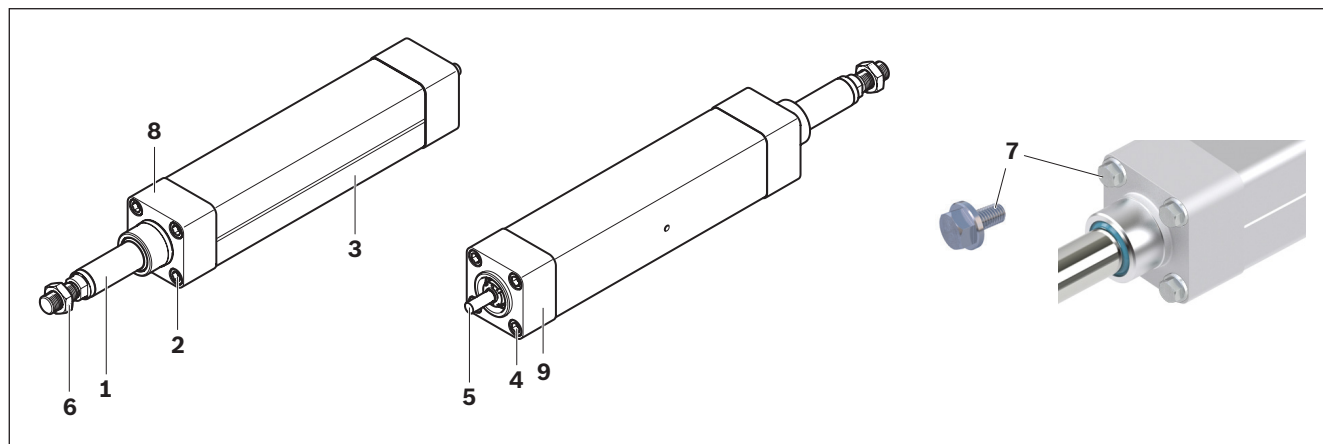

Fig. 1: Components of the electromechanical cylinder EMC
- Force sensor, screw plugs ➡ Fig. 1, Straight connectors